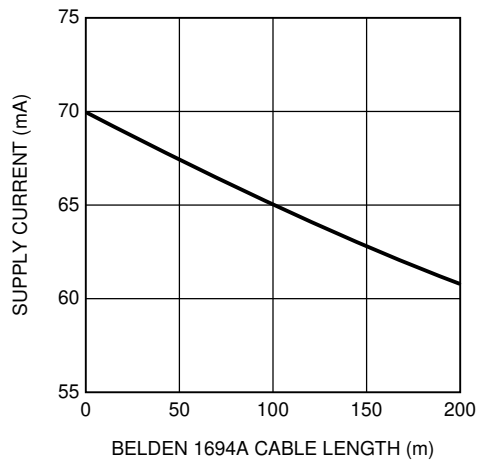
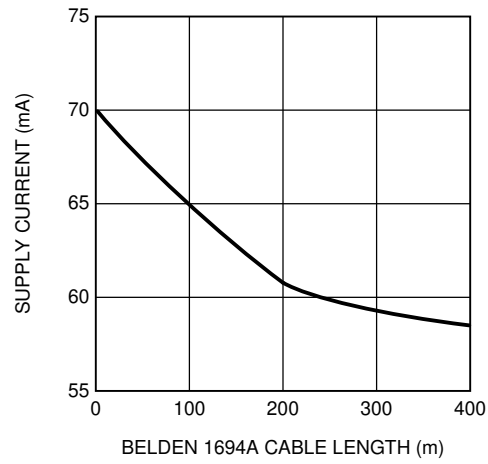

Figure 2. Supply Current vs. Belden 1694A Cable Length, 1.485 Gbps
Figure 3. Supply Current vs. Belden 1694A Cable Length, 270 Mbps
- (1) Current flow into device pins is defined as positive. Current flow out of device pins is defined as negative. All voltages are stated referenced to $V_{EE} = 0$ Volts.
- (2) Typical values are stated for $V_{CC} = +3.3V$ and $T_A = +25^\circ C$.
- (3) Specification is ensured by characterization.
- (4) The maximum input voltage swing assumes a nonstressing, DC-balance signal; specifically, the SMPTE-recommended color bar test signal. Pathological or other stressing signals may not be used. This specification is for 0m cable only.
- (5) Supply current depends on the amount of cable being equalized. The current is highest for short cable and decreases as the cable length is increased. Refer to Figure 2 and Figure 3.
The supply current (I_{CC}) depends on the amount of cable being equalized. The current is highest for short cable and decreases as the cable length is increased. Figure 2 shows supply current vs. Belden 1694A cable length for 1.485 Gbps data and Figure 3 shows supply current vs. Belden 1694A cable length for 270 Mbps data.